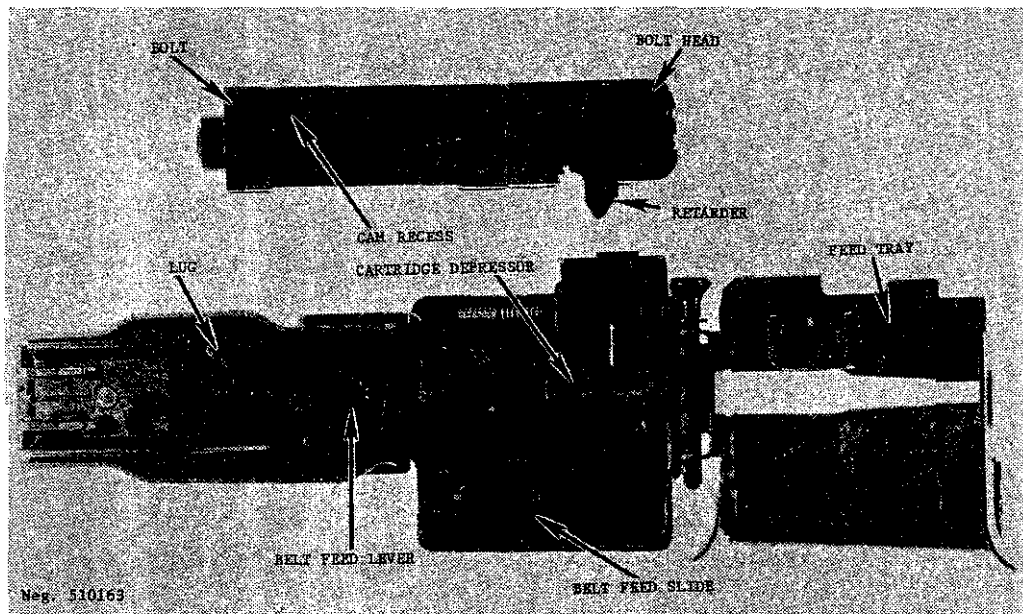

Figure 164. AA-52 bolt and feed cover.
c. Upon firing, the gas pressure generated immediately thrusts the bolt head rearward. The retarder lever is outward, being against the rear wall of its recess (fig 164) and, as the bolt head moves the retarder is forced to swing inward. The inner arm of the retarder presses against the bolt body and, before the retarder can rotate, it must force the bolt body rearward away from the bolt head (fig 164). This action causes a 3:1 mechanical disadvantage against the bolt head while accelerating the rearward motion of the bolt body. The mechanical disadvantage, in essence,
e. The shuttle-type feed mechanism, quite simple in function, is actuated by the recoil and counterrecoil of the bolt. A cam lug on (fig 164) the pivoted belt feed lever projects into a recess (fig 164) in the top of the bolt. As the bolt drives forward and pushes the round out of the feed tray, a cam surface at the rear left of the bolt recess contacts the cam lug on the belt feed lever; this moves the front end of the lever (and the attached belt feed slide) outward. The spring-loaded pawls of the feed slide override and then snap over the next cartridge to be fired. Upon firing and resultant bolt recoil, the angular right side of the bolt recess actuates the belt feed lever inward. The feed pawls thus move the next round into position over the slot in the feed tray. The spring-loaded cartridge depressor (fig 164) holds the cartridge solidly in the slot and the fixed belt holding pawls in the cover prevent the belt from moving out of the gun during feed.